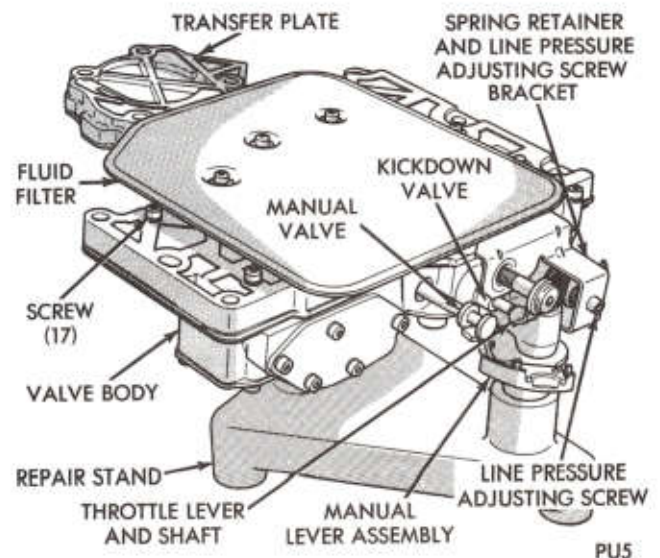

Fig. 1—Valve Body Assembly
- (1) Place valve body assembly on repair stand Tool C-3749 (Fig. 1). Remove three screws from the fluid filter and lift off filter.
- (2) Remove top and bottom screws from spring retainer and adjustment screw bracket.